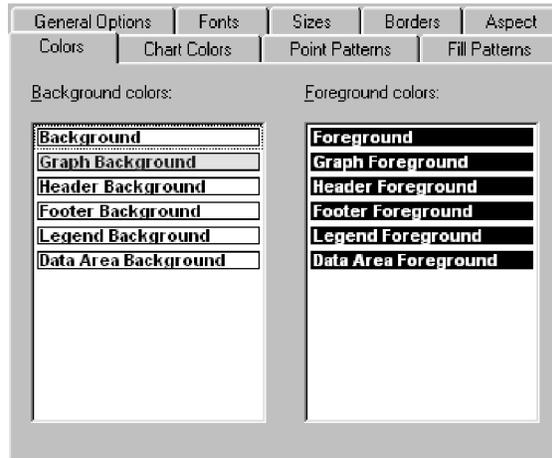

Figure 8.18 *Graph Options dialog box: Colors tab*
- 2 In the **Graph Options** dialog box, click the **Colors** tab (Figure 8.18).